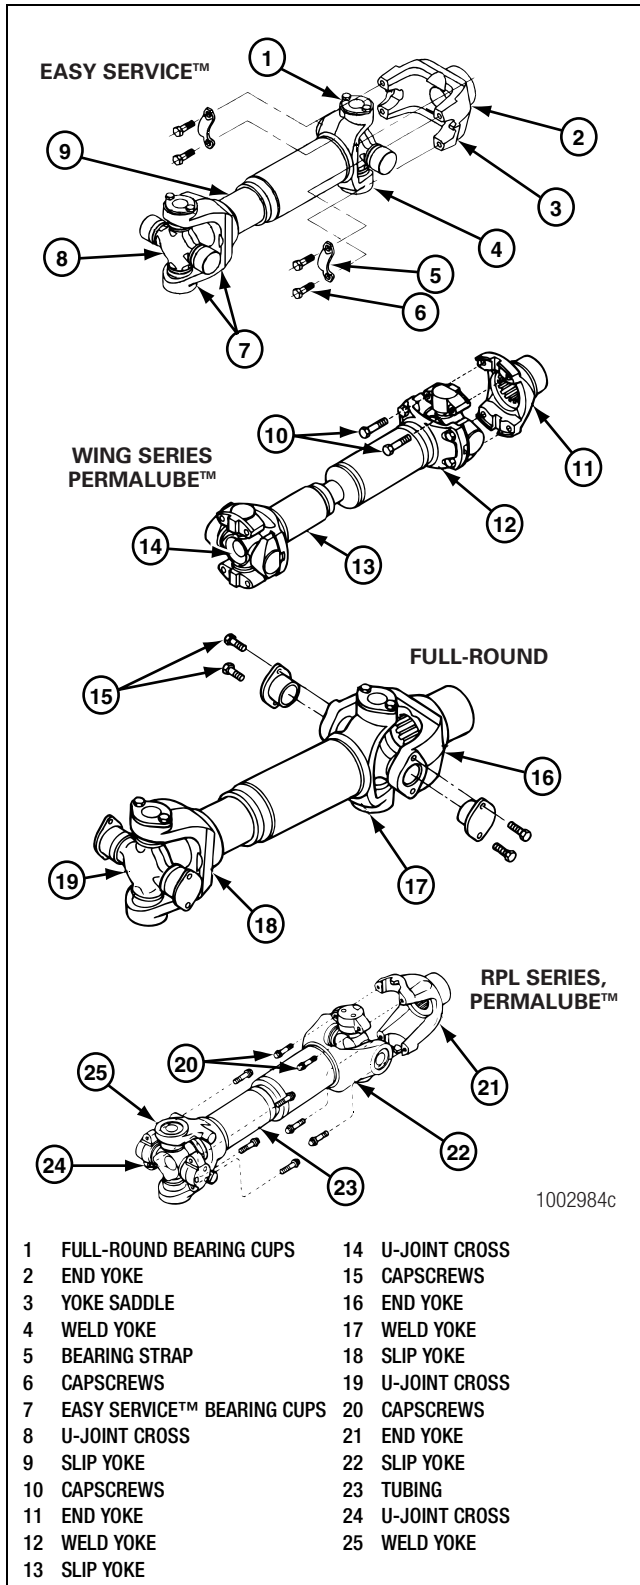

Figure 3.6
8. Disconnect the driveline universal joint from the pinion input yoke or flange on the carrier. Figure 3.6.